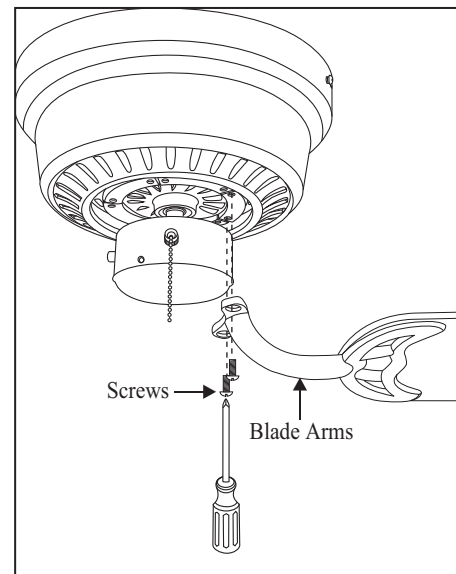

Figure 10
3. Align motor holes to blade arms and secure with screws provided, tighten screws securely. (Figure 10)